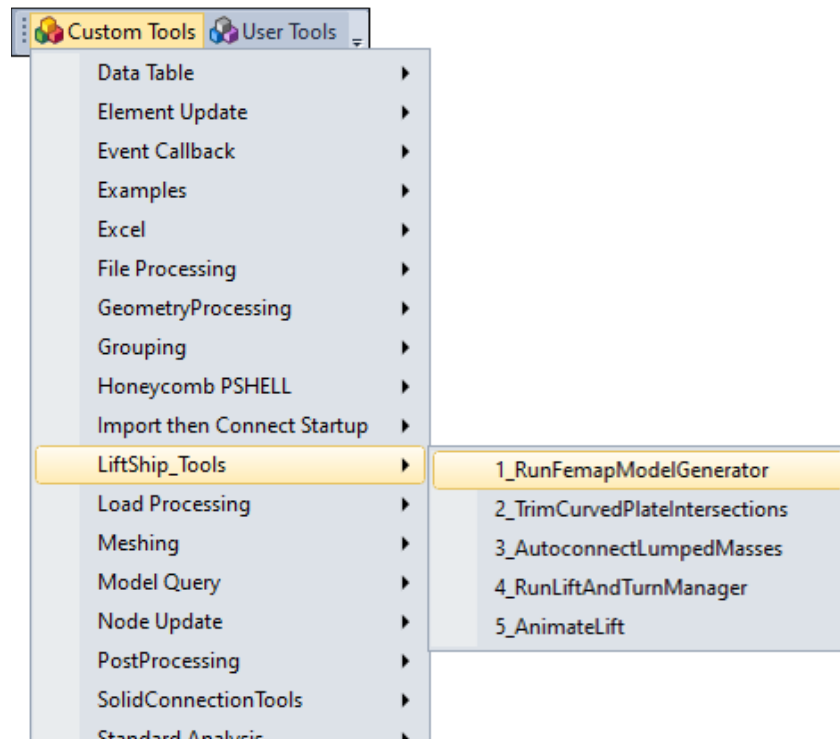

Figure 1. ATA's LiftShip Tools for Femap can be found in the Custom Tools menu.
All five (5) tools run from within the Custom Tools menu in Femap, as shown in Figure 1.